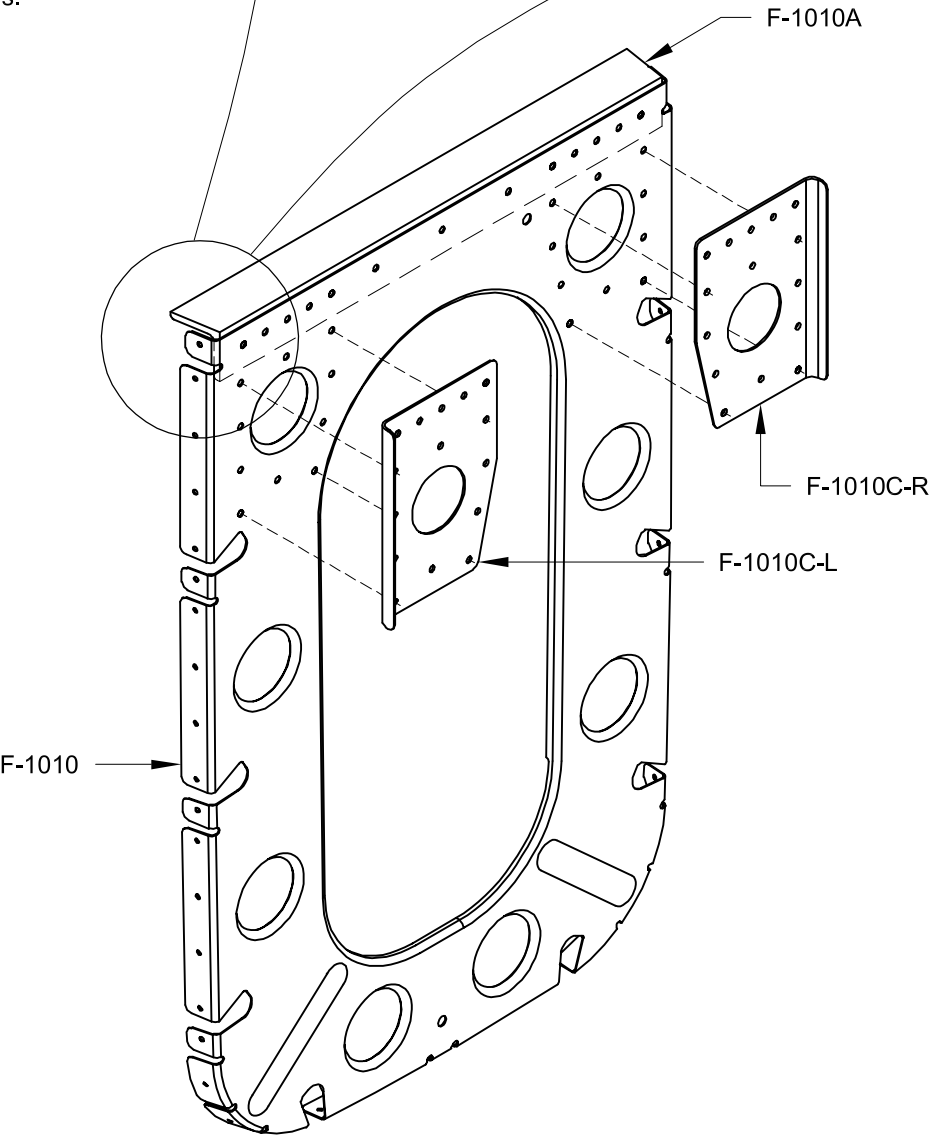

FIGURE 3: DRILLING THE HORIZONTAL STABILIZER ATTACHMENT ANGLE
Step 3: Deburr and flute (if necessary) the F-1008-L & -R Frames, then cleco them and the F-1085 Rudder Cable Bracket together as shown in Figure 3. Note that the left frame is positioned in front of the right.